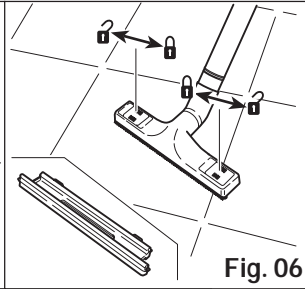

Fig. 06
**MULTIPURPOSE NOZZLE** (fig. 06) - To vacuum solid dirt on any type of surface, simply change the appropriate Cleaning Head.